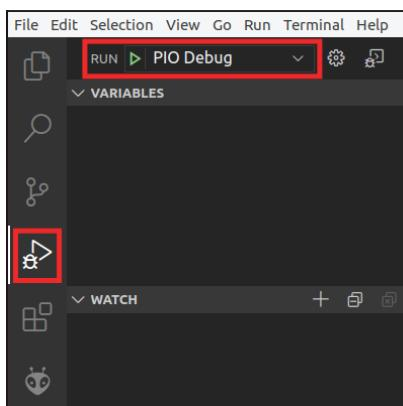

Figure 110. Start debugger
4. Click on the “Run” button . Start the debugger by clicking on the play button  (make sure that the “PIO Debug” option is selected). You can find this button near the top of the window (see Figure 110). The program will first compile and then debugging will start. PlatformIO sets a temporary breakpoint at the beginning of the main function, so the execution will stop there.